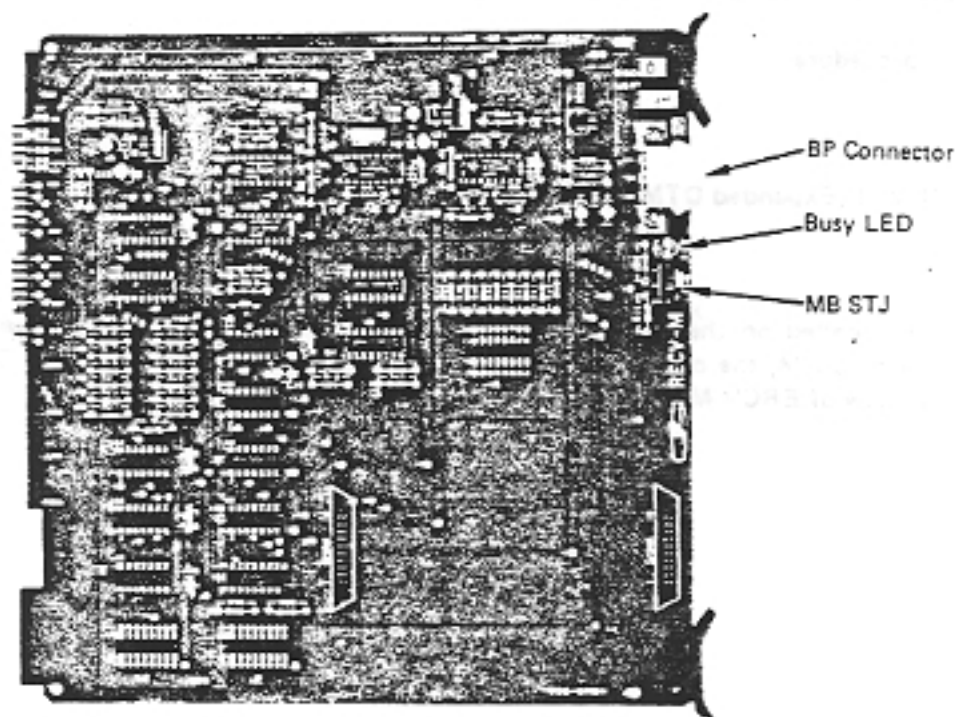

Figure 3.6.2.5.7(1) External View of RECV-M
(1) General
RECV-M receives DTMF signals from single-line telephones if the EX-824/1648 system uses type 2500 single-line telephones as extensions. One unit has two receiver circuits. An ERCV-M can be installed on this card, in which case the unit has four receiver circuits. Figure 3.6.2.5.7(1) shows an external view of the RECV-M.